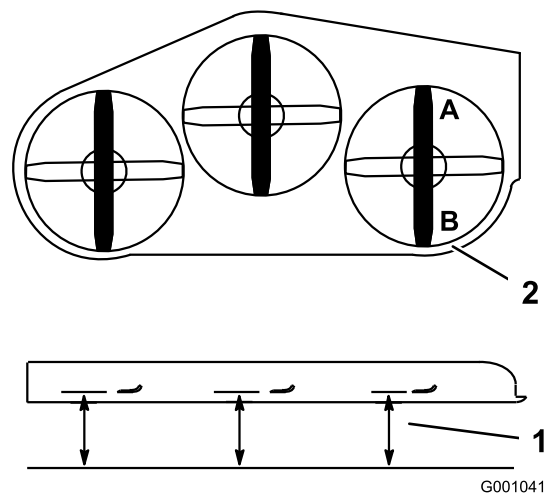

Figure 83
2. Position one blade front-to-rear. Measure at **A** and **B** locations from a level surface to the cutting edge of the blade tips (Figure 83).